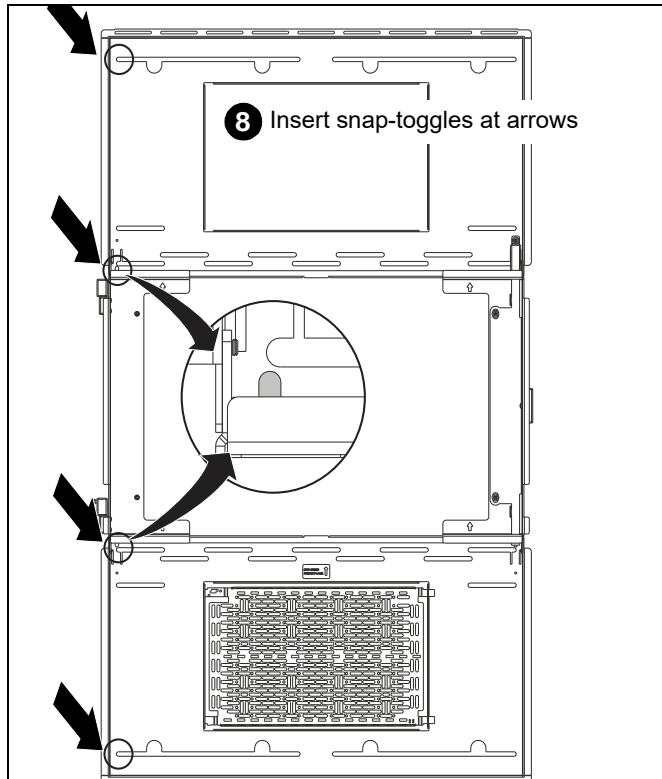

Figure 4
8. Insert four snap toggles and related fasteners into hinge side of wall bracket. (See Figure 4)